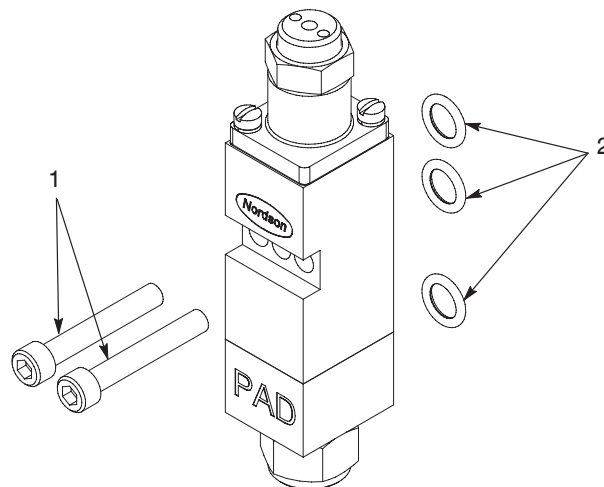

Figure 9-6 Replacing a module (standard module shown)
6. See Figure 9-6. Remove the module mounting screws (1) and then remove the module. Remove the module O-rings (2) for inspection.